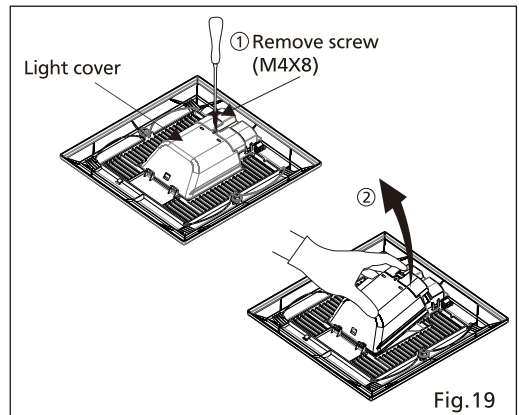

Fig.19
2. Remove the screw as shown in step ① of Fig.19. Remove the light cover as shown in step ② of Fig.19 .